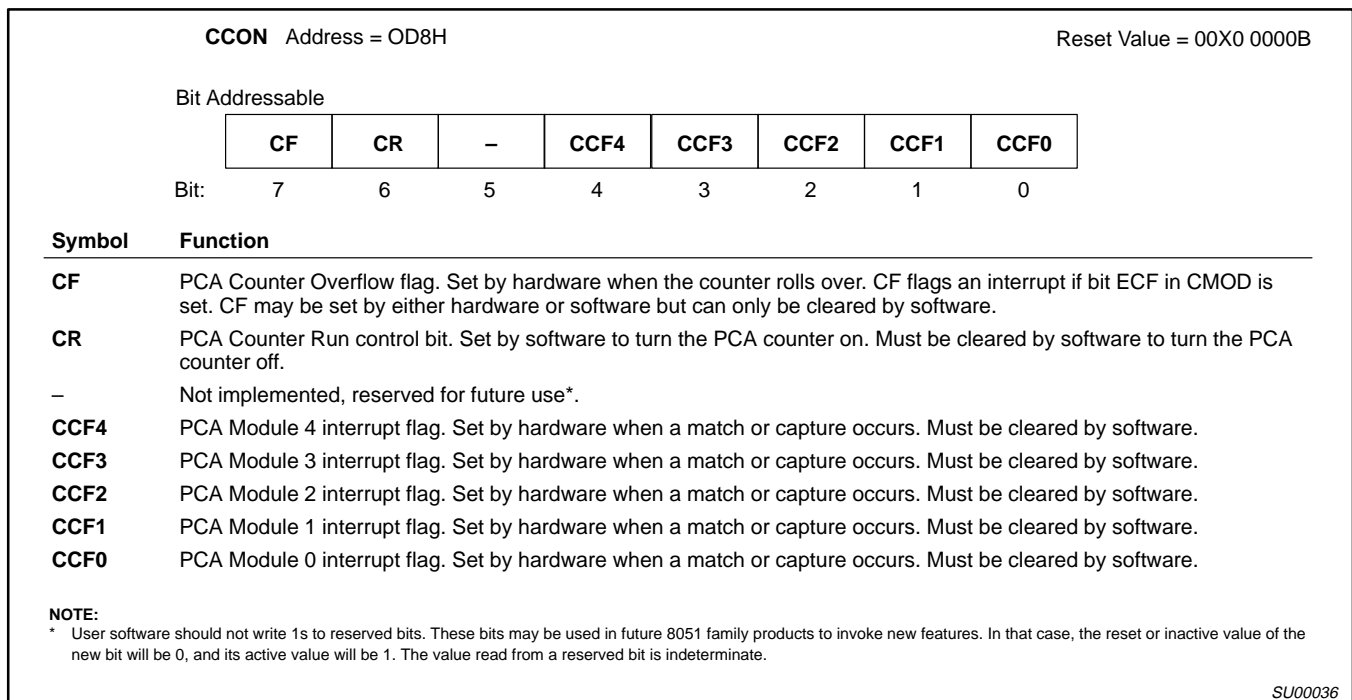

Figure 11. CCON: PCA Counter Control Register
The CCON SFR contains the run control bit for the PCA and the flags for the PCA timer (CF) and each module (refer to Figure 11). To run the PCA the CR bit (CCON.6) must be set by software. The PCA is shut off by clearing this bit. The CF bit (CCON.7) is set when the PCA counter overflows and an interrupt will be generated if the ECF bit in the CMOD register is set, The CF bit can only be cleared